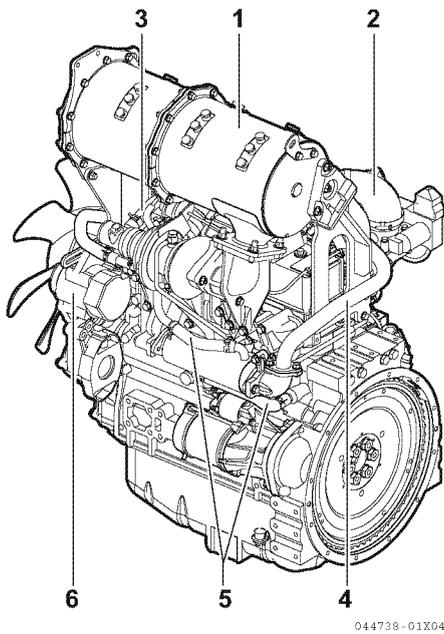

Figure 6-2
2. Remove the DPF (1, **Figure 6-2**). *See How to remove the DPF unit on page 13-15.*
3. For models with turbocharger, remove the intake duct (2, **Figure 6-2**) on the cylinder head cover, and also the breather hose (3, **Figure 6-2**).
4. Remove electric wirings of the EGR gas temperature sensor (equipped to the EGR valve side end of the EGR pipe), and remove the EGR pipe (4, **Figure 6-2**). Remove the cooling water pipes (both inlet and outlet) (5, **Figure 6-2**) of the EGR cooler. Here, remaining water may spill. Prepare waste cloths or the like under the EGR cooler.
5. Alternator (6, **Figure 6-2**). *See Removal of Alternator on page 12-10.*